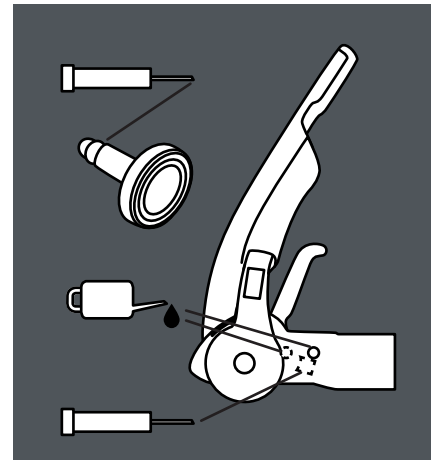

Fig 32 Lubrication points
- b. Areas may only be covered with a thin film of grease (Fig 32).